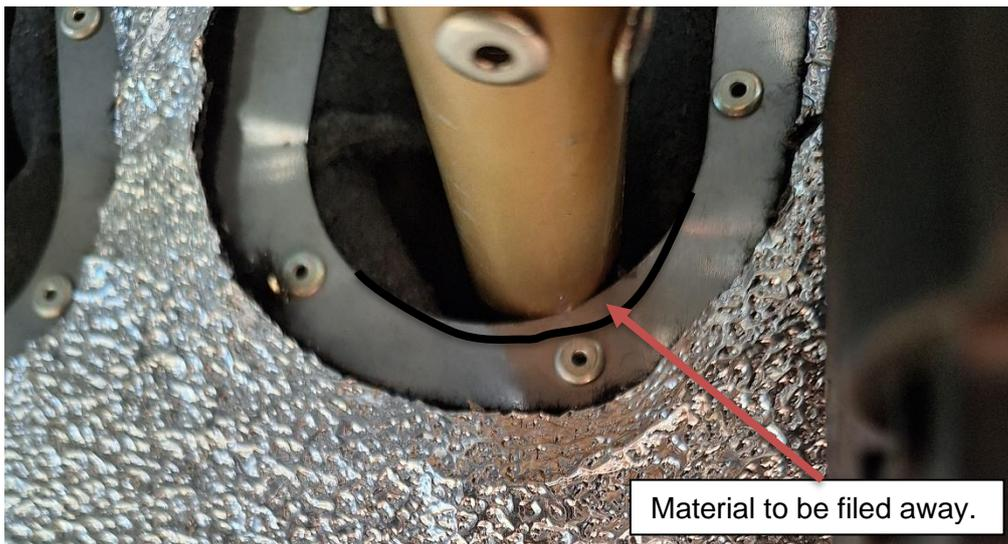

Figure 5
- Step 2: Using the marker pen, mark the area of the cutout that is to be filed down, this is where the pushrod makes contact with it. The profile of the curve should be a gentle radius, so that there will not be any sharp corners once the area has been filed down. Refer to Figure 5. Only do this for the cutout of the left pushrod, the right one is not affected by this interference. Alternatively, the template located at the end of this document may be used to mark the profile that the hole should be widened too.